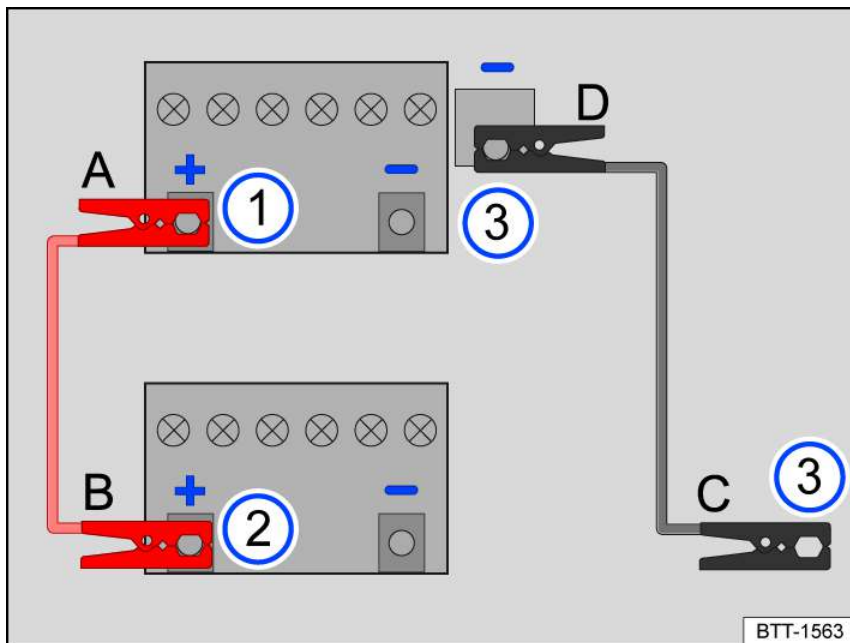

Fig. 143 Diagram for connecting the jumper cables.
Only connect the jumper cables in the sequence **A – B – C – D** fig. 143.
3. Connect one end of the *red* jumper cable **A** to the positive battery terminal + of the vehicle battery with the discharged 12-volt vehicle battery fig. 143 ①.
4. Connect the other end of the *red* jumper cable **B** to the positive battery terminal + of the vehicle supplying the power fig. 143 ②.
5. Connect one end of the *black* jumper cable **C** preferably to a jump-start point (negative connection), otherwise to a large metal part that is bolted securely to the cylinder block or to the cylinder block itself of the vehicle supplying the power fig. 143 ③.
6. Connect the other end of the *black* jumper cable **D** for the vehicle with the discharged 12-volt vehicle battery preferably to the jump-start point (negative connection), otherwise to a large metal part that is bolted securely to the cylinder block or to the cylinder block itself fig. 143 ③ ⇒ ⚠.
3. With the engines running, disconnect the jumper cables only in the sequence **D – C – B – A** *fig. 143*.